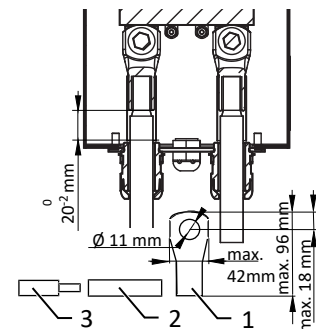

Fig. 27: Configuring the DC cable
- **WARNING! Risk of short circuit due to incorrect size of the cable lug! Observe the dimensions for the selection.** [See figure 27 ▶ Page 30]